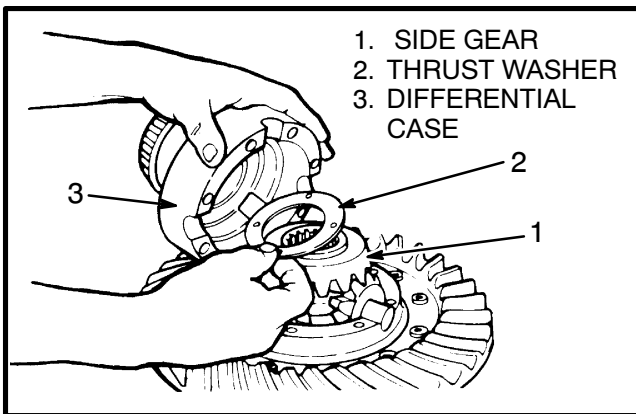

FIGURE 14. INSTALL THE SECOND SIDE GEAR AND THRUST WASHER
- d. Install the second side gear and thrust washer over the spider and differential pinions as shown in FIGURE 14.